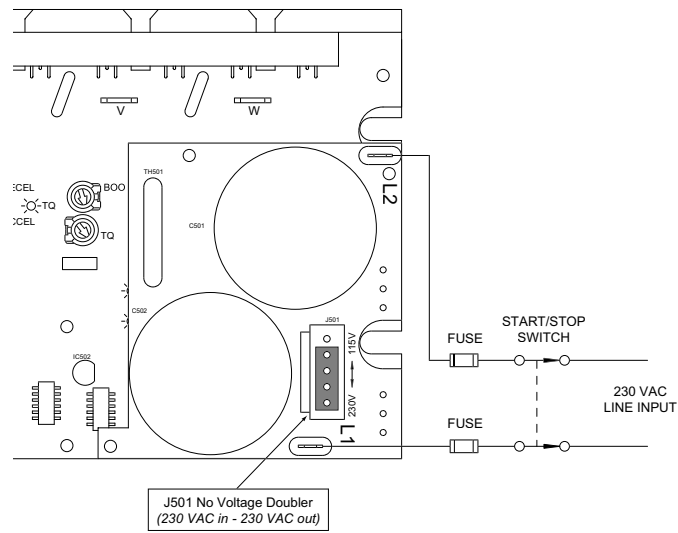

Figure 4. AC Line and Fuse Connections (No Voltage Doubler)
- If the input voltage is **230 VAC** and the desired output voltage is 230 VAC (no voltage doubler), set 115V/230V jumper as shown in Figure 4 (page 12). Add a line fuse to L1 and L2. Do not use the voltage doubler feature with 230 VAC line voltage.